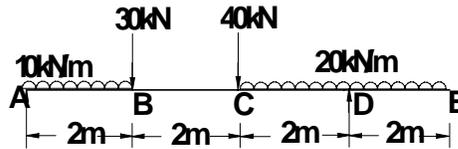

Fig. 5(b)
- 5 a. What are the different types of beams? Explain briefly. (5)
b. For the beam shown in fig.5(b), draw shear force and Bending moment diagram. Locate the point of contra flexure if any. (15)